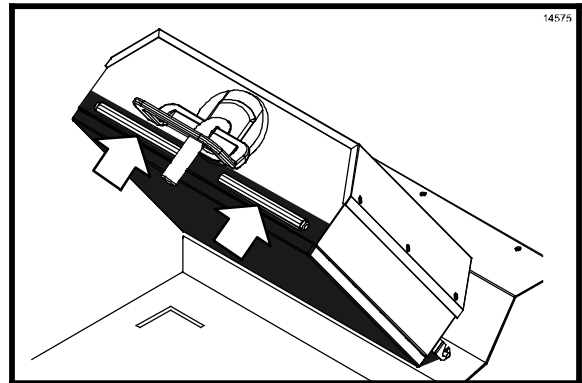

Figure 38
29. Re-install the release sheet. Secure the sheet with the locking clips and rod. (See Figure 38.)